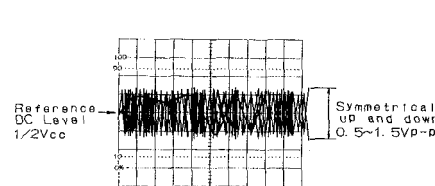

Figure 21-1
- *1 Adjust to obtain vertically symmetrical waveform (Fig. 21-1) with respect to reference DC level. The reference level is 1/2Vcc [Amplitude of 0.5 to 1.5 Vpp]